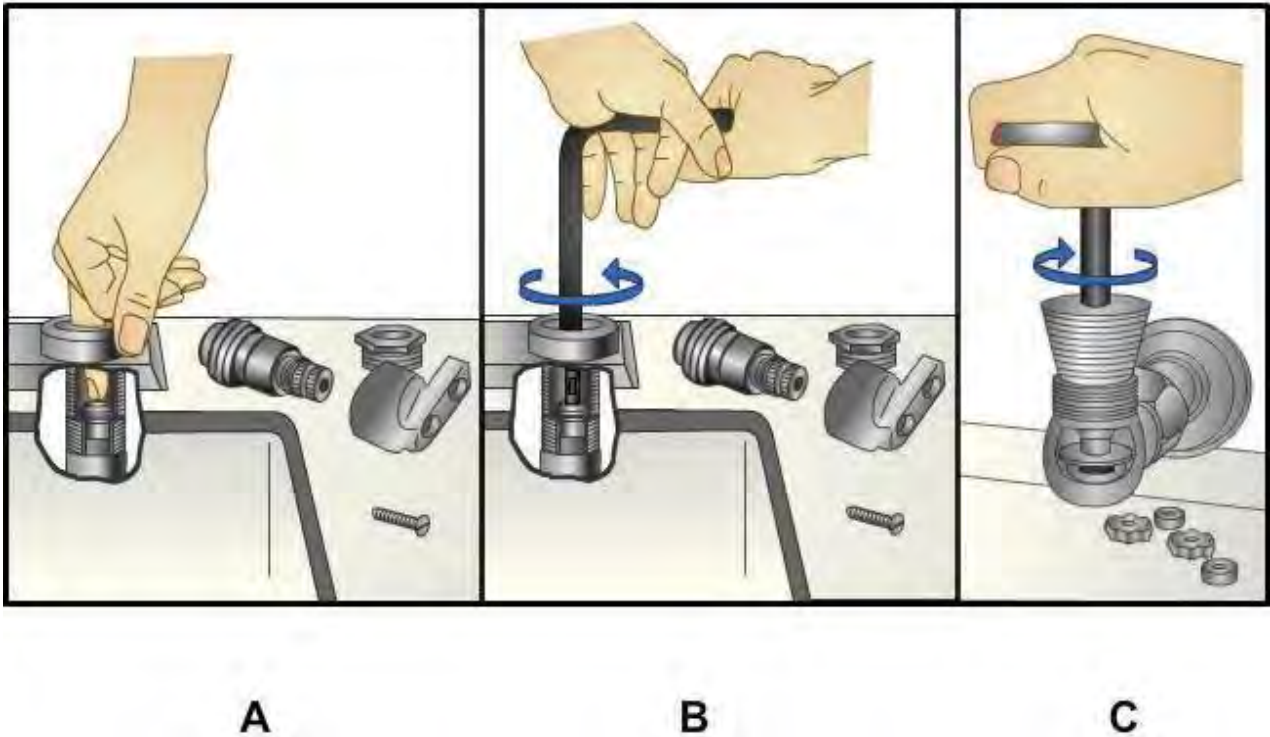

Figure 6-42 – Inspecting, removing, and refacing faucet seats.
4. If the brass screw is in poor condition, replace it with a new one (*Figure 6-42, View A*).
5. Examine the valve seat and repair or replace it with a new one (*Figure 6-42, View B*), if necessary, before replacing the spindle; otherwise, a new washer provides adequate service for only a short time.
6. Reface or ream solid seats (*Figure 6-42, View C*) with a standard reseating tool consisting of a cutter, stem, and handle. Rotate the tool with the cutter centered and held firmly on the worn or scored seat. Take care to prevent excessive reaming. Remove all grinding residue before reassembly. A solid seat can be replaced with a renewable seat by tapping a standard thread into the old solid seat and inserting a renewable seat.